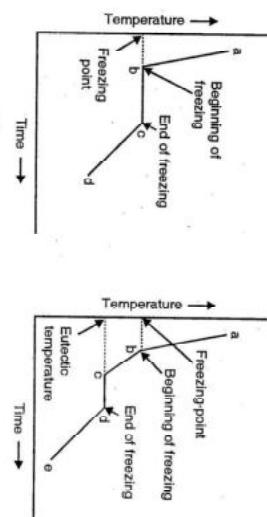

Fig. 5.4.1 : Cooling curves
**(1) Fusing pure substance / cooling liquid slowly**
- When a pure substance in the fused or liquid state is allowed to cool slowly and the temperature noted at definite times. The graphic representation of the rate of cooling will be continuous curve (See Fig. 5.4.1(a)).
**(2) Fused solid solutions cooled slowly**
- The system now becomes *invariant* from the point of view of the phase rule and the temperature remains constant, until solidification is complete (See Fig. 5.4.1(b)).